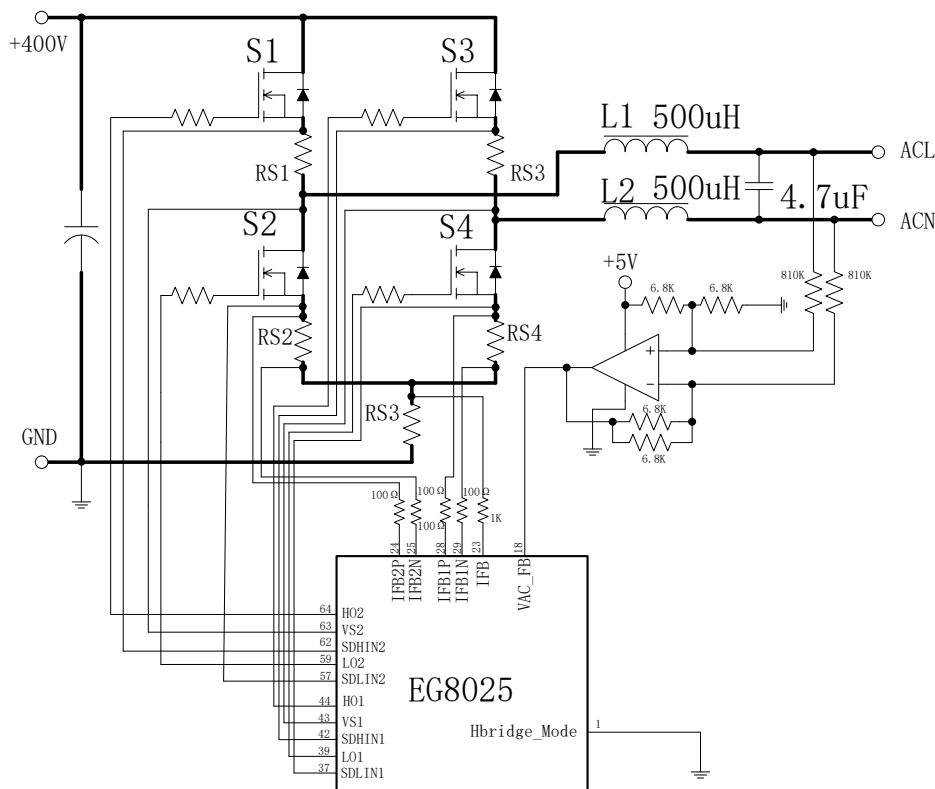

Figure 8.7a The application circuit with HBridge\_Mode “0”
**The application circuit with HBridge\_Mode "0" is shown in Fig 8.7a.**